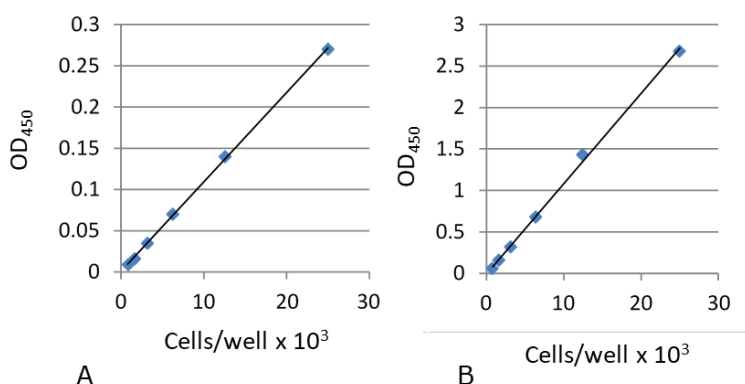

Figure 3. Standard curves for (A) HL60 and (B) HeLa cells.
- The incubation time varies by the type and number of cells in a well. For example, please see data in Figure 3 comparing HL60 and HeLa cells. Leukocytes give weak coloration, thus a long incubation time (up to 4 hours) or a large number of cells ( $\sim 1 \times 10^5$  cells/well) may be necessary.